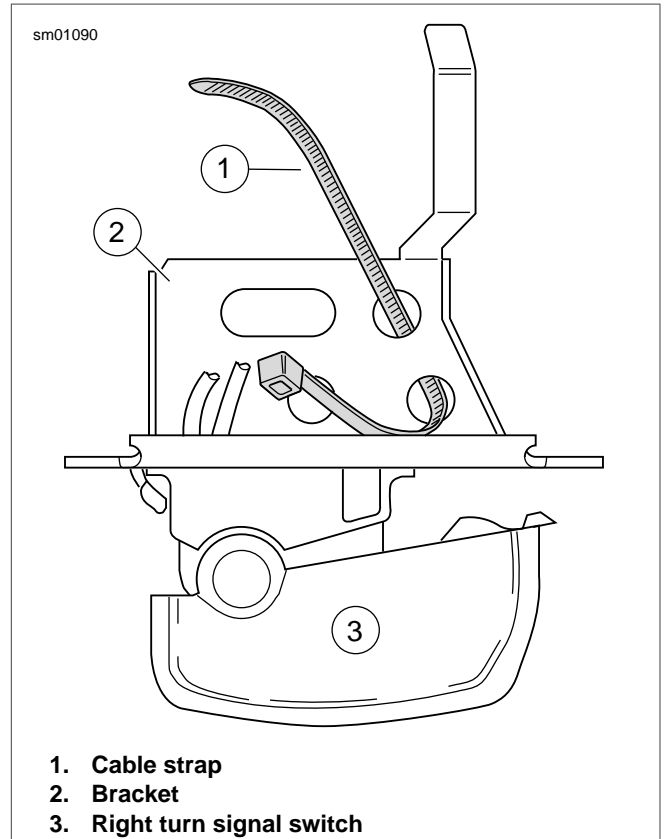

Figure 7-94. Insert Cable Strap in Switch Bracket
1. See Figure 7-94. Insert tapered end of new 7.0 in. (177.8 mm) cable strap (1) into round hole in turn signal switch bracket (2) and then feed back through using the adjacent hole. Reserve the oblong hole for the bracket screw.